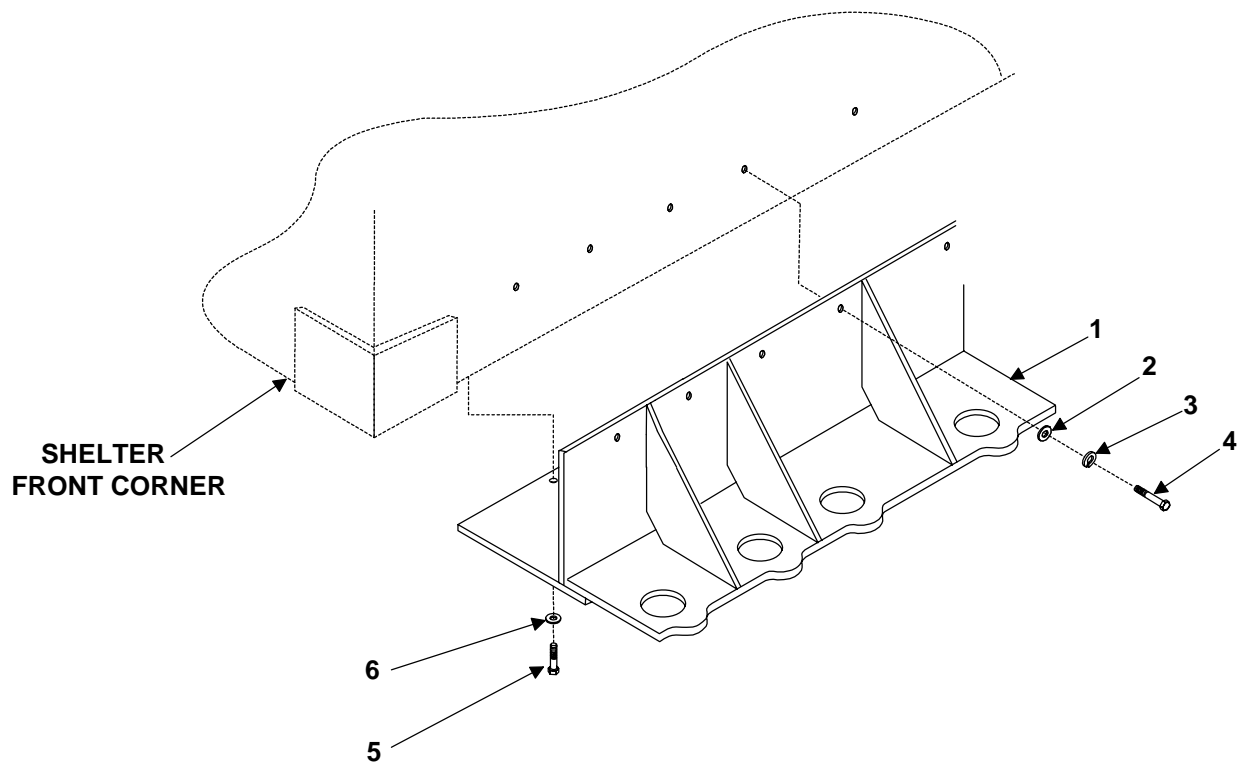

Figure 6. Front Mount Installation on Shelter.
2. Position mounting angle assembly (figure 6, item 1) on shelter and secure front section with flat washers (figure 6, item 2), lock washers (figure 6, item 3), screws (figure 6, item 4), and bottom section with bolts (figure 6, item 5) and flat washers (figure 6, item 6). Tighten screws/bolts to 8 – 10 ft. lbs.